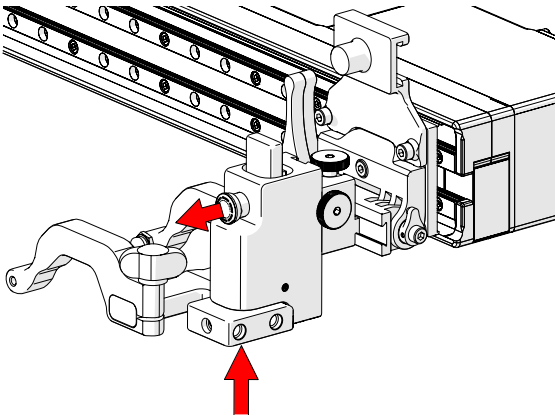
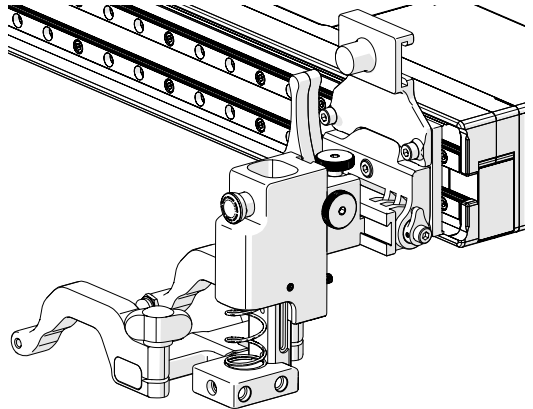

Fig. 176 - Press up and pull latch
Fig. 177 - Lowered toward scan surface
1. Gently lift the heavy duty vertical probe holder and simultaneously pull the latch (Fig. 176). This action will unlock the probe holder. Slowly lower the probe holder towards the scan surface (Fig. 177).